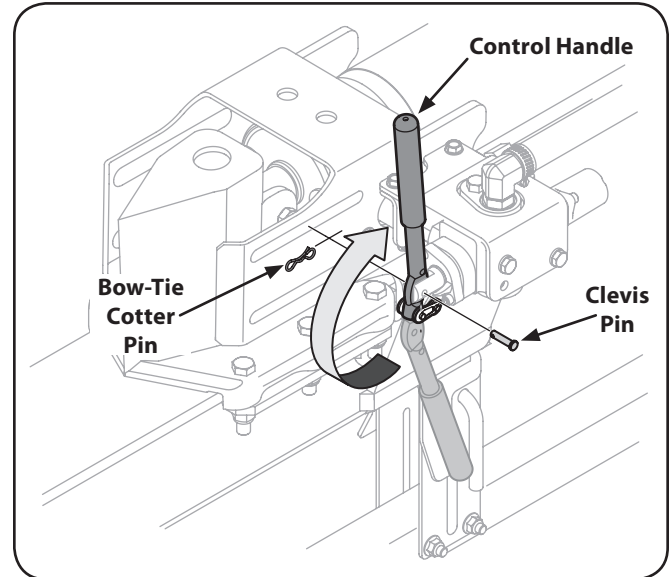

Figure 3-8
22. Remove the clevis pin and bow-tie cotter pin from the control handle. See Figure 3-8.
23. Rotate the control handle into the operating position and secure with the clevis pin and bow-tie cotter pin removed in step 22. See Figure 3-8.